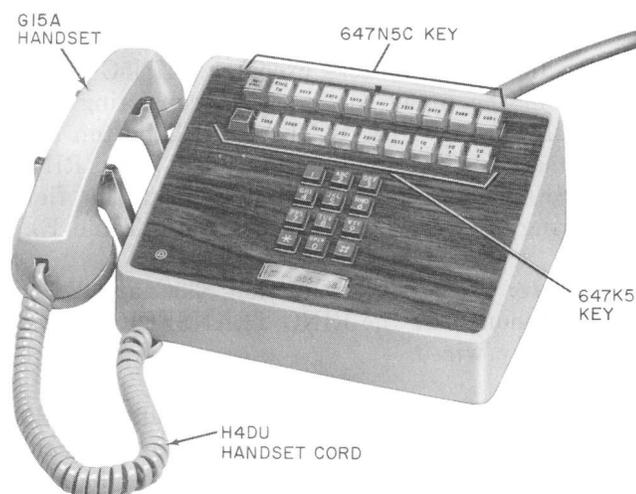

Fig. 1—2833CM Telephone Set
2.01 The 833BM, 2833BM, 833CM, and 2833CM (Fig. 1) are modular type telephone sets and will replace the 833B, 2833B, 833C, and 2833C telephone sets, respectively, which are hereby rated MD. The 833DM, 2833DM, 833EM, and 2833EM are also modular sets and are electrically and functionally equivalent to the 833BM, 2833BM, 833CM, and 2833CM sets, respectively, except that they have been adapted for wall mounting. The modular sets will all be equipped with a G15A-50